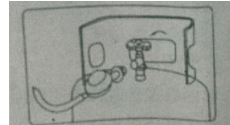

Fig3
3. Open the angle valve of the gas bottle counterclockwise (as shown in Figure 3)